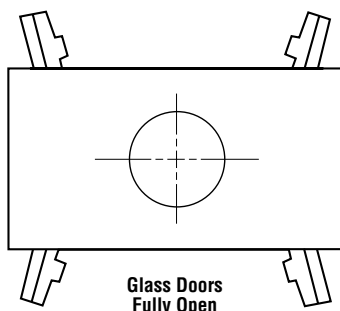

Figure 44
**WARNING: THESE FIREPLACES SHOULD BE OPERATED ONLY WITH THE DOORS FULLY OPEN OR FULLY CLOSED (FIGURES 44 AND 45). IF DOORS ARE LEFT PARTLY OPEN, GAS AND FLAME MAY BE DRAWN OUT OF THE FIREPLACE OPENING, CREATING RISKS OF BOTH FIRE AND SMOKE.**